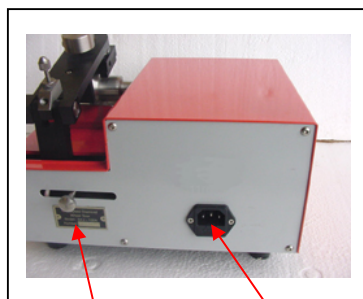

Fig. 1
- (1) Just plug power cable into the power inlet at the back of the saw. The voltage ranges from 110V to 230V. Always unplug powder cable before open saw case for any repair.
- (2) Please choose suitable position for gravity swing arm, and tighten the screw before cutting, otherwise micrometer can not work (as Fig. 1)